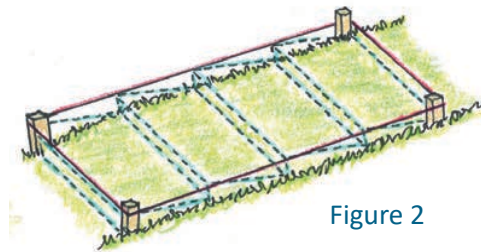

Figure 2
**STEP 1 – Stake perimeter.** Stake out the perimeter of the stairway by driving a stake into the ground at each corner of the stairway and stretching string between them (Figure 2).
**STEP 2 – Mark areas to be excavated.** Determine the areas that need to be excavated for each step. Using a measuring tape and starting from the string at the bottom of the slope, measure and mark the depth of each step until you reach the string at the top of the slope. Use spray paint, sand or flour to mark the depth of each step (Figure 2).